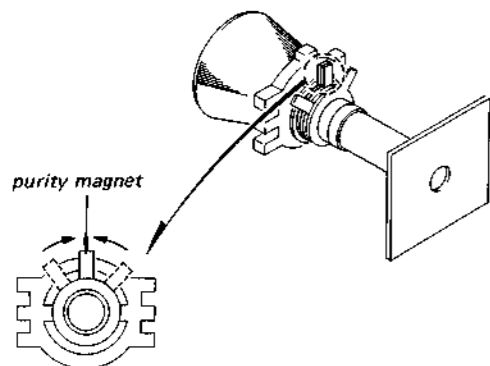

Fig. 3-1.
- 4) Adjust purity magnets as shown in Fig. 3-1. (zero magnetic field).